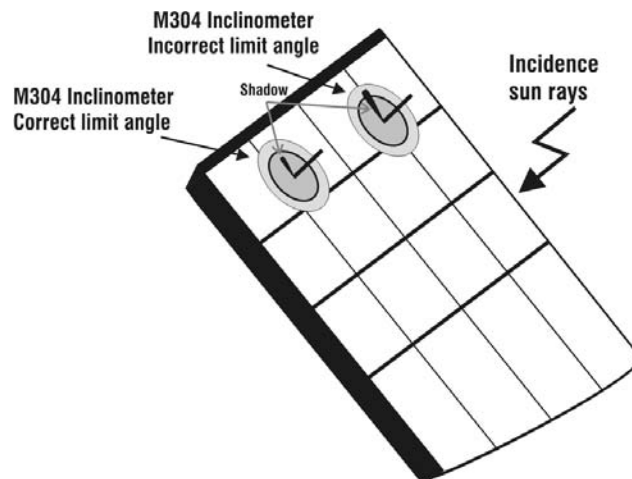

Fig. 10: Positioning the M304 inclinometer
18. Mount the M304 (inclinometer) supplied accessory, place and hold it on the plane of module. **Verify that the sun shadow falls on the disc within the “limit internal circle” on the disc itself (see Fig. 10).** If this is not the case, the incidence angle between sun rays and the module surface is too high and not complying with the test conditions declared by the module manufacturer. As a consequence the measurements performed by the meter are not ok and all measurements steps shall be repeated at another daytime